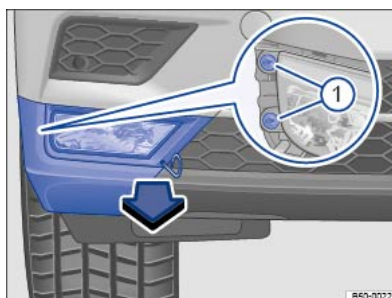

Fig. 205 In the front bumper, right-hand side: remove the fog light.
2.	Take the wire hook from the tool kit and insert it in the opening in the cover ⇒ Fig. 205. Pull the cover forwards in the direction of the arrow.
3.	Use the screwdriver from the vehicle tool kit to unscrew the securing screw ⇒ Fig. 205 ① ⇒ Vehicle toolkit .
11.	Use the screwdriver to tighten the securing bolts ⇒ Fig. 205 ①.
12.	Replace the cover in the bumper ⇒ Fig. 205.